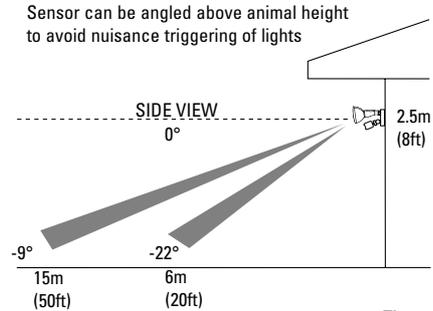

Fig. 2
- The scanning specifications (15m at 120° scan) may vary slightly depending on the mounting height and location. (Refer Fig. 2) The detection range of the unit may also alter with temperature change.